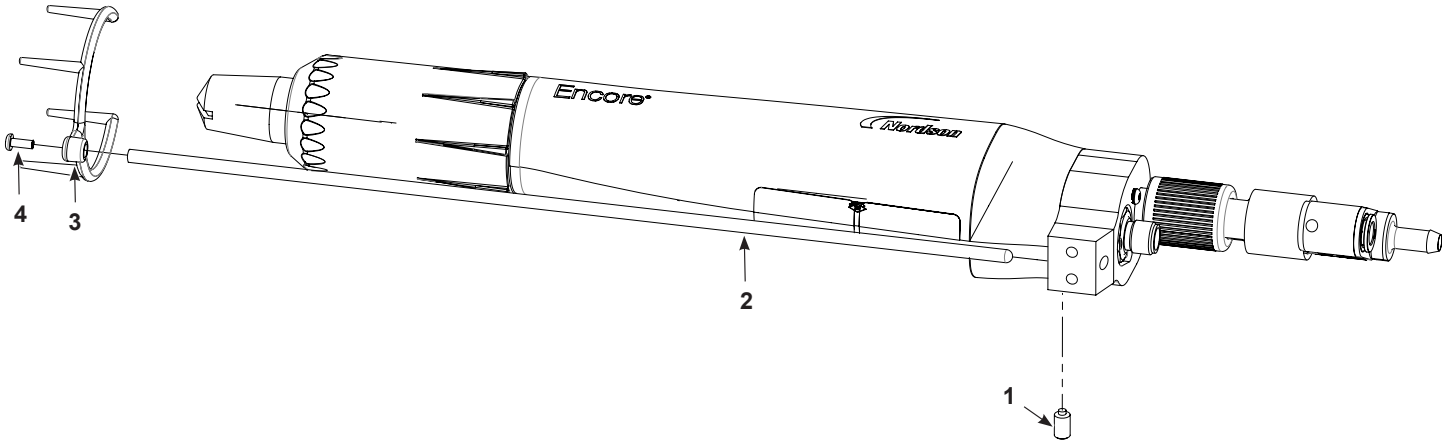

Figure 3-7 Ion Collector Installation - Bar-Mount Spray Gun (for clarity, some parts are not shown)
1. See Figure 3-7. Insert the collector rod (1) into the bar-mount adapter and secure it with the M5 x 8 set screw (2) included in the ion collector kit.
2. Attach the multi-point tip (3) to the collector rod using the M3 x 8 screw (4).